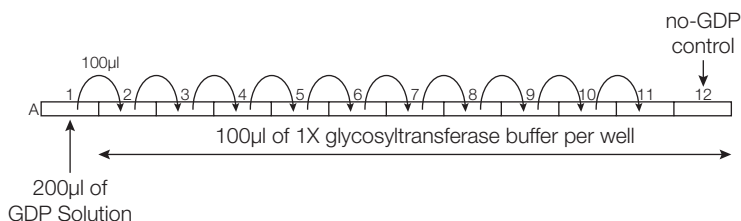

Figure 5. Dilution scheme for creating a GDP standard curve.
3. Perform a serial twofold dilution as shown in Figure 5 by transferring 100 μ l from well A1 to well A2, pipetting to mix. Transfer 100 μ l from well A2 to well A3, pipetting to mix. Repeat for wells A4 through A11. Discard the extra 100 μ l from well A11. Do not add GDP to the no-GDP control reactions in well A12.